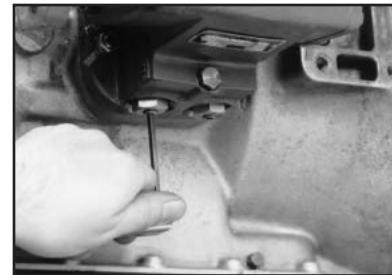

Figure 11
8. The 852 Series has one (1) drilled and tapped hole in the inspection plate (Fig. 11).